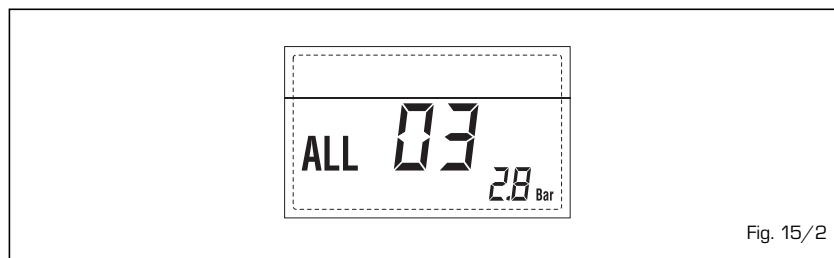

Fig. 15/2
– **C.H. SENSOR ANOMALY ALARM 05 (fig. 15/4)**